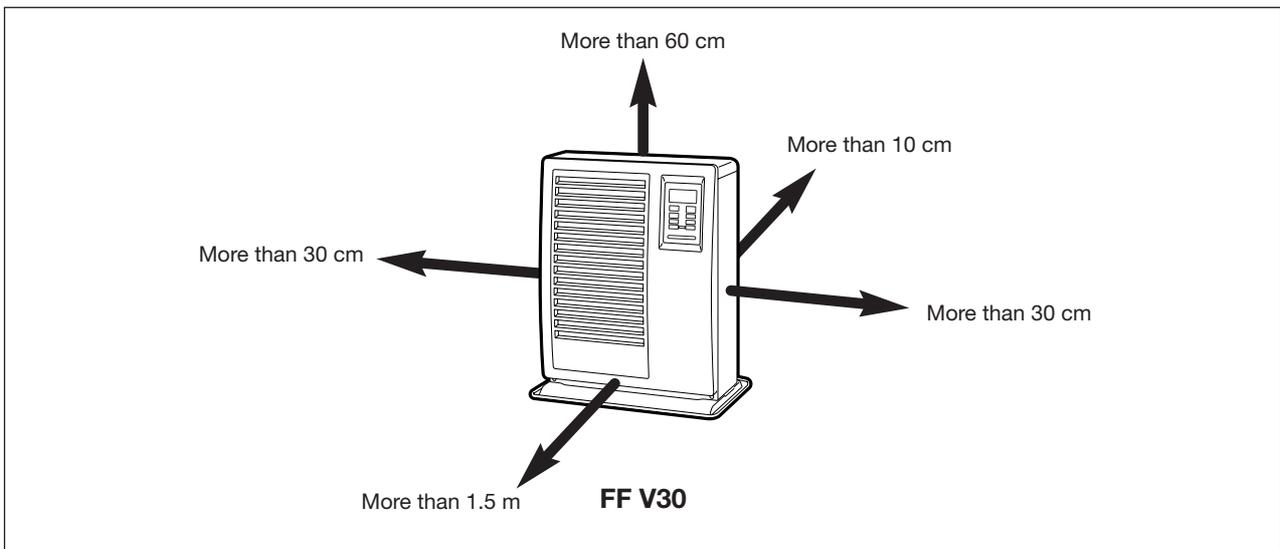

Fig. 1
- 1 Select heater location. Ensure minimum clearances as indicated below between heater and nearest combustible materials. (See Fig. 1.) Provide service access to clean the circulation air filter, integral fuel strainer and reset button.